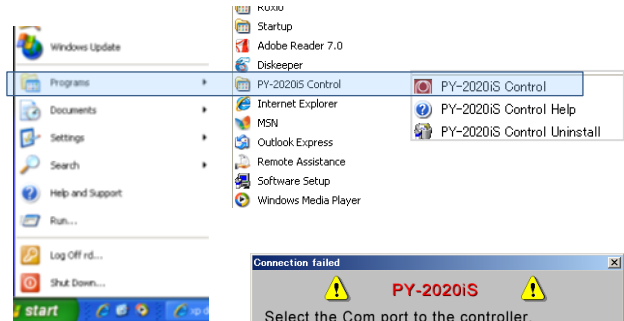

Fig. 6.2
- 6.2 Start PY-2020iS Ver. 3.04 software application by selecting “**Programs**”-“**PY-2020iS Control**”-“**PY-2020iS Control**” (Fig. 6.2).